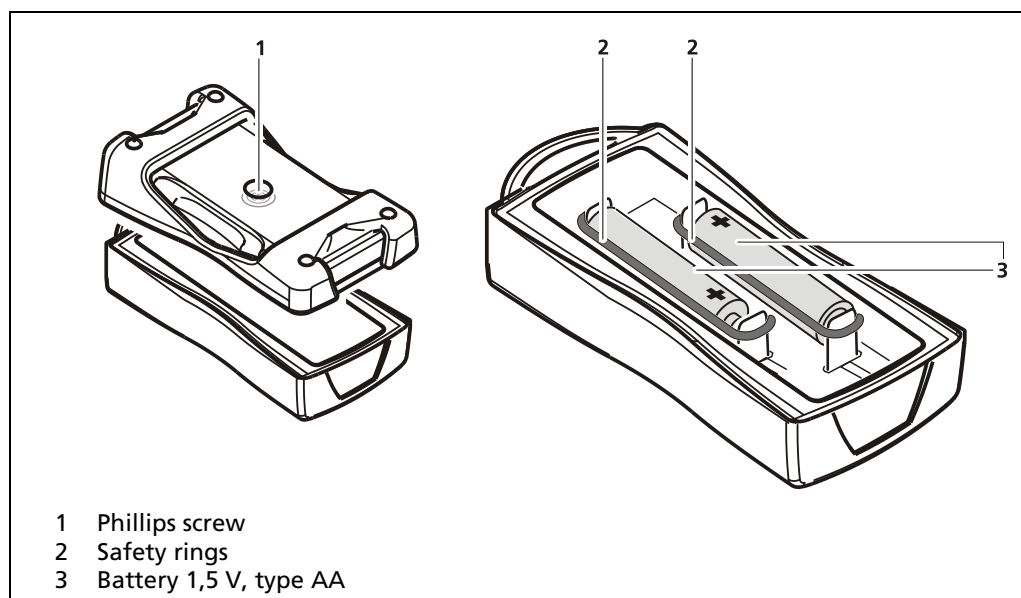

Fig. 17 Replacing the batteries
1. Loosen the Phillips screw (Fig. 17, item 1) at the bottom side and open the housing.
2. Remove the safety rings (Fig. 17, item 2) and replace both batteries (Fig. xx, item 3).
3. Attach the both safety rings (Fig. 17, item 2) and.
4. Attach the bottom side of the housing and tighten the Phillips screw (Fig. 17, item 1).